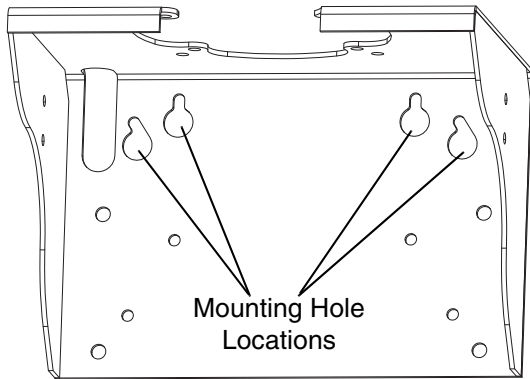

Fig. 27: Wall Mount Hole Locations
2. Ensure the wall mount is level using the wall bracket as a template. Drill four 7/16 in (11 mm) diameter holes for the mounting bolts. See **Figure 27** for the mounting hole fastener locations.